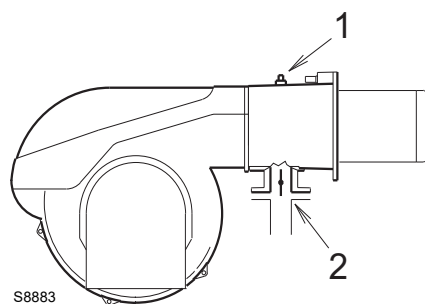

Fig. 26
Gas pressure measured at the test point 1)(Fig. 26), with:
Pressure loss at gas butterfly valve 2)(Fig. 26) with maximum opening: 90°.
- Subtract the combustion chamber pressure from the gas pressure measured at test point 1)(Fig. 26).
Gas pressure at test point 1)(Fig. 26) = 14.3 mbar
To know the required gas pressure at test point 1)(Fig. 26), set the maximum output required from the burner operation, then:
- Read, on the right (column 1) the socket pressure 1)(Fig. 26).
pressure required at test point 1)(Fig. 26).
- Bleed the air from the piping of the gas train, connecting a plastic tube to the pressure test point 1)(Fig. 26) of the minimum gas pressure switch. Take the vent tube outside the building so you can notice the smell of gas.